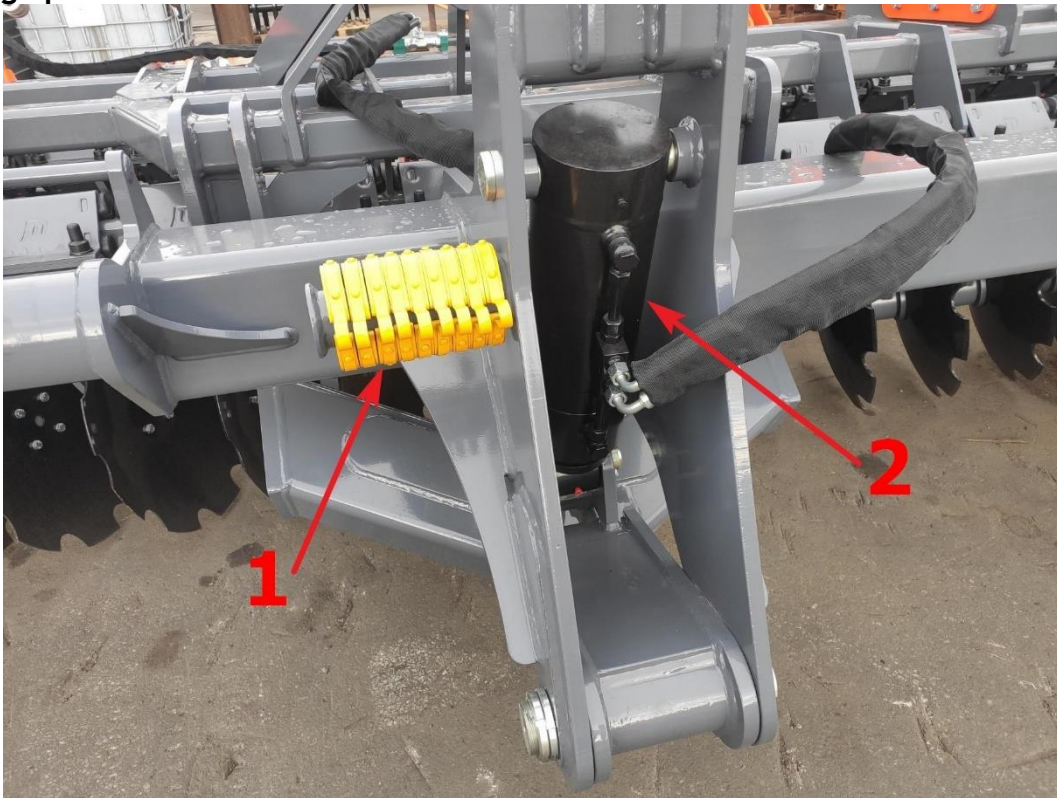

Fig. 24 View of the machine wing hydraulic assembly; 1-safety clips, 2-cylinder.
First of all, the appropriate working depth must be determined using the hydraulic cylinders of the three-point linkage on which the disc harrows are suspended (item 1, fig. 24). There are special clips on the three-point frame designed to be fitted to the piston rod of the cylinder to maintain the desired extension (item 2, fig. 24). As the cylinder's extension is increased, its working depth is increased, and a decrease in extension results in a decrease in working depth. Clips (item 2, fig. 24), which are fitted to the piston rod of the cylinder, are used to maintain the preset cylinder extension.